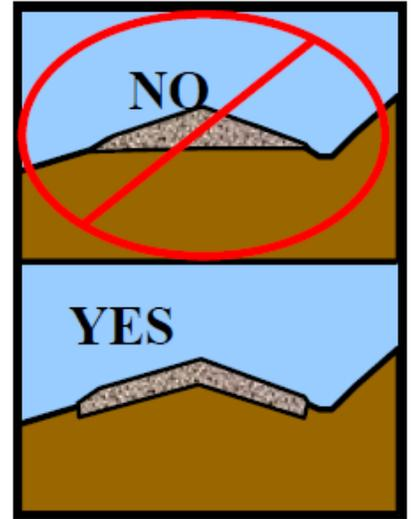
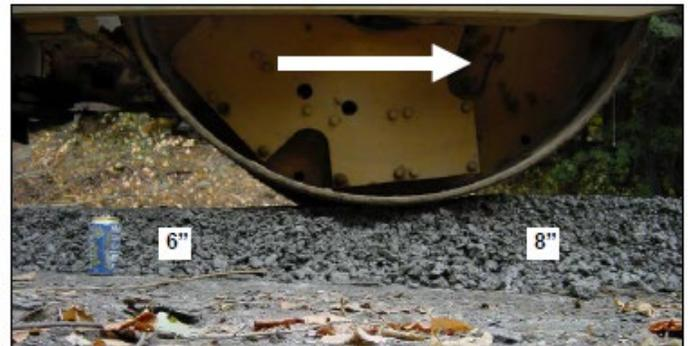

Figure 2. Road base preparation.
Figure 3: A roller moving from left to right compacts the 8” lift of loose DSA down to 6”.
4. Establish proper drainage in existing base (*figure 2*). Recommended crown or cross-slope is $\frac{1}{2}$ to $\frac{3}{4}$ inch per horizontal foot. Proper shape may be a flat “A” crown profile, an in-slope or out-slope. If exposed bedrock or insufficient material prevents proper shaping of the road base, additional base material should be added before aggregate placement.
Tarps are to be used to cover 100% of the load’s exposed surface from the time of loading until it is placed on the road. An un-compacted uniform depth of 6 to 8 inches of DSA is to be used to establish the driving surface (*figure 3*). Placement is to be in a single lift. The preferred method of application is through a track mounted paver. Set the paver adjustments on application thickness and width so it is unnecessary to use a grader. The required crown or side slope is $\frac{1}{2}$ ” to $\frac{3}{4}$ ” rise per horizontal foot. This slope is to be achieved by properly preparing base and placing aggregate in a uniform lift (*figure 2*). When the paver is applying aggregate, care should be taken to always keep the paver at or near capacity.